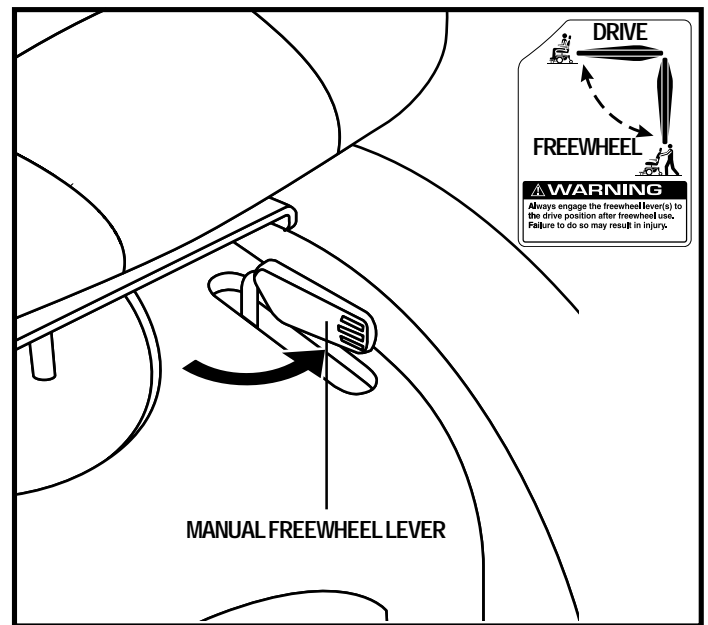

Figure 8. Freewheel Mode (Drive Disengaged)
3. Turn the levers outward to disengage the drive motors (freewheel mode). See figure 8.